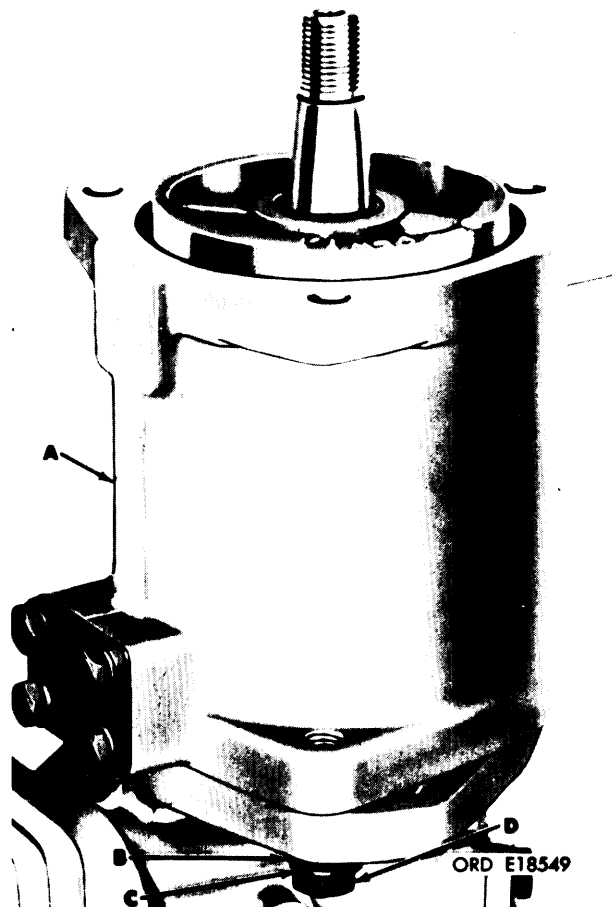

Figure 3-130. Positioning timing device housing prior to checking end play.
(6) Refer to figure 3-130. Install timing device housing (A) and secure with two flat washers (B), lockwashers (C), and machine screws (D). Torque tighten machine screws to 17-20 foot-pounds.